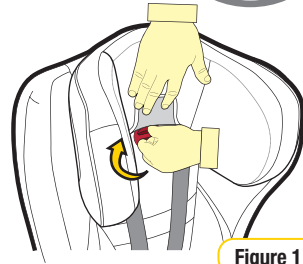

Figure 1
**Step 2:** To adjust the headrest, lift the “**TWIST & LIFT**” flap on the headrest cover. Turn the red “**TWIST & LIFT**” knob clockwise to unlock the headrest (refer Figure 1).